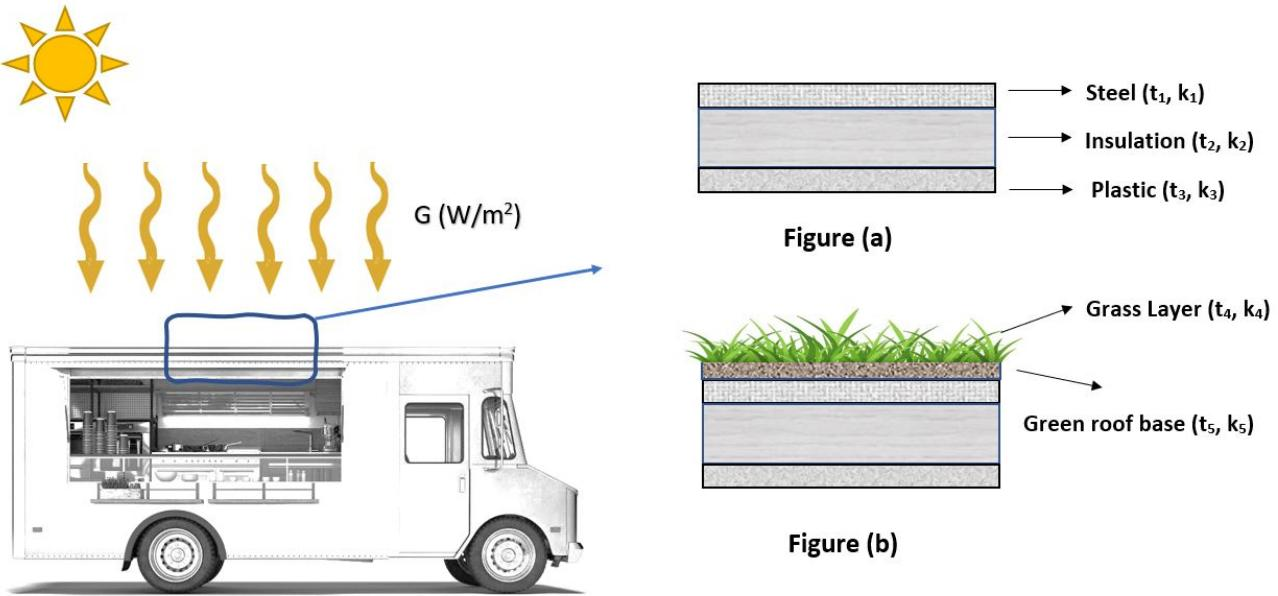

Figure 6.1: Cross-section of the food truck roof.
During scorching summer days, the food truck crafted by UT IDE students sets up near the sports center. The outdoor temperature sizzles at  $T_i = 35^\circ\text{C}$ , with still air and a sunny blast of solar energy at  $G = 1100 \text{ W m}^{-2}$ . In the original design, captured in Figure 6.1(a), the roof of the food truck compartment embraces a composite structure. This blend involves insulation ( $t_2 = 60 \text{ mm}$ ,  $k_2 = 0.036 \text{ W m}^{-1}\text{K}$ ), snugly nestled between a steel panel ( $t_1 = 4 \text{ mm}$ ,  $k_1 = 130 \text{ W m}^{-1}\text{K}$ ) atop, boasting a reflectivity of 0.9. Beneath, an interior plastic panel ( $t_3 = 5 \text{ mm}$ ,  $k_3 = 0.26 \text{ W m}^{-1}\text{K}$ ) wraps up the ensemble.
- One of the group members suggested using a green roof for the food truck, as shown in Figure 6.1 (b), to save energy for cooling by adding grass layer ( $t_4 = 10\text{mm}$ ,  $k_4 = 0.038 \text{ W m}^{-1}\text{K}$ ) with reflectivity of 0.95 and green roof base layer ( $t_5 = 15\text{mm}$ ,  $k_5 = 0.36 \text{ W m}^{-1}\text{K}$ ). Determine the temperature of the roof surface and the temperatures of each layer, and then draw a temperature profile within the roof structure and outside air.